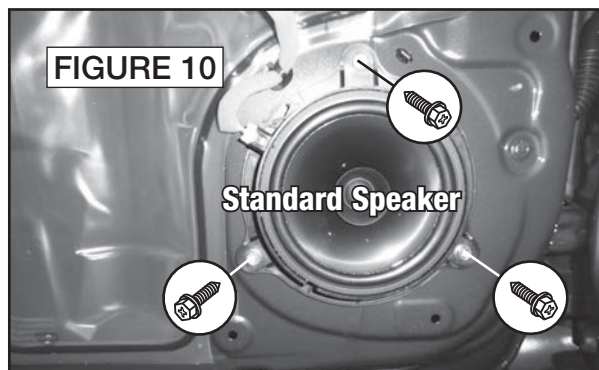

FIGURE 10
8. Remove three (3) 10mm screws securing speaker. Pull out speaker, disconnect and remove (Figures 10 & 11).
11. Pry up center brake light housing to release clips. Pull toward front of vehicle, disconnect wiring harness and remove housing (Figure 10).